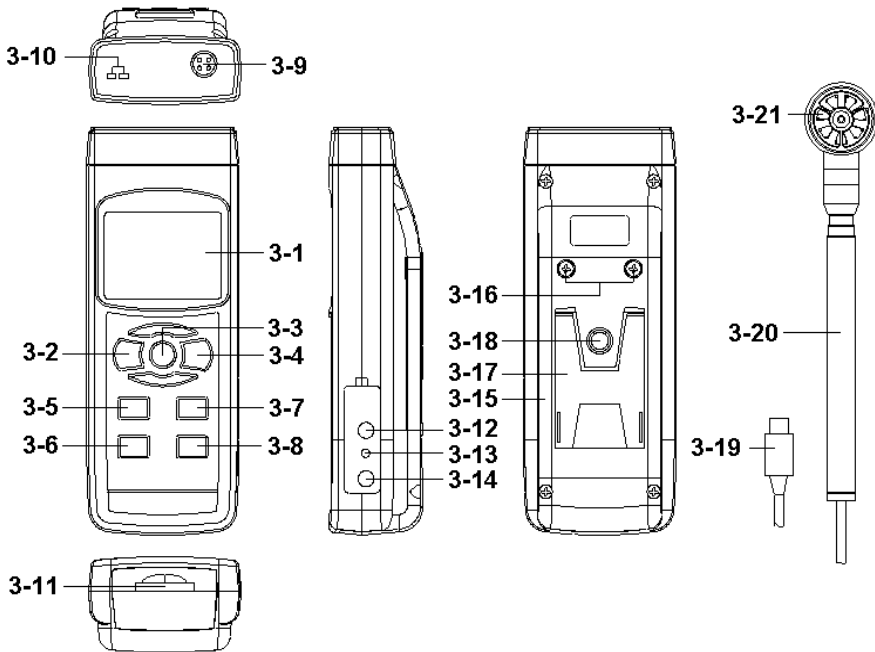

Fig. 1
1) Power on the meter by pressing the " Power button " (3-2, Fig. 1) > 1.5 seconds continuously.
Pressing the " Function Button " (3-7, Fig. 1) continuously (not release the button), the Display will show the following text in sequence :
Until the Display show the desired mode (Function), just release the " Function Button " (3-7, Fig. 1), the meter will execute this function with default.
- b.. Plug the " Probe Plug " (3-19, Fig. 1) into the " Probe Input Socket " (3-9, Fig. 1).
Power on the meter by pressing the " Power Button " (3-2, Fig. 1) > 1.5 seconds continuously.
- c. Hold the " Air/Temp. Probe " (3-20, Fig. 1) by hand and let the " Probe Head " (3-21, Fig. 1) face against the measuring air flow source, then the Display (3-1, Fig. 1) will show air velocity directly. At the same time, the lower Display will show the air temperature value.
If intend to change the Air velocity unit, press the Unit Button " (3-5, Fig. 1) > 1.5 seconds, the unit will change from m/s to Km/h, mph, Knot, FPM in sequence, until the desired unit is present on the Display release the " Unit Button ", the select unit will save into the memory with default.
- b. Plug the Thermocouple Temp. Probe (Type K Temp. probe or Type J Temp. probe, optional) into " Type K/J Probe Input Socket " (3-10, Fig. 1)
During the measurement, press the " Hold Button " (3-3, Fig. 1) once will hold the measured value & the LCD will display a " HOLD " symbol.
- 1) The data record function records the maximum and minimum readings. Press the " REC Button " (3-4, Fig. 1) once to start the Data Record function and there will be a " REC " symbol on the display.
- a) Press the " REC Button " (3-4, Fig. 1) once, the " REC MAX " symbol along with the maximum value will appear on the display.
- b) Press the " REC Button " (3-4, Fig. 1) again, the " REC MIN " symbol along with the minimum value will appear on the display.
- c) Press the " REC Button " (3-4, Fig. 1) again, the " MIN " symbol will be appeared, LCD only show the " REC " symbol, the meter start the Data Record function again.
- 3) To exit the memory record function, just press the " REC Button " (3-4, Fig. 1) > 1.5 seconds continuously. The display will revert to the current reading.
- 1) After power ON, the " LCD Backlight " will light automatically. During the measurement, press the " Backlight Button " (3-2, Fig. 1) once will turn OFF the " LCD Backlight ".
insert the SD card into the " SD card socket " (3-11, Fig. 1).
Press the " LOG Button (3-8, Fig. 1) > 1.5 seconds continuously, the lower LCD will show the text of " Log " (or show " Log " with the Temp. value alternately),
During execute the Datalogger function, if press the " LOG Button " (3-8, Fig. 1) once will pause the Datalogger function (stop to save the measuring data into the memory circuit temporally). In the same time the " REC " symbol will stop flashing, the lower LCD will show the text of " Log " (or show " Log " with the Temp. value alternately).
If press the " LOG Button " (3-8, Fig. 1) once again will execute the Datalogger again, the " REC " symbol will flashing.
During execute the Datalogger function, press the " LOG Button (3-8, Fig. 1) > 1.5 seconds continuously again will finish the Datalogger function, the " Log " text will be disappeared and finish the Datalogger function.
Press the " LOG Button (3-8, Fig. 1) > 1.5 second , the lower LCD will show the " Position no. " (or show the Position no. with the Temp. value alternately), then press the " LOG Button " (3-8, Fig. 1) once, the " REC " symbol will flashing once and Beeper will sound once, at the same time the measuring data along the time information will be saved into the memory circuit.